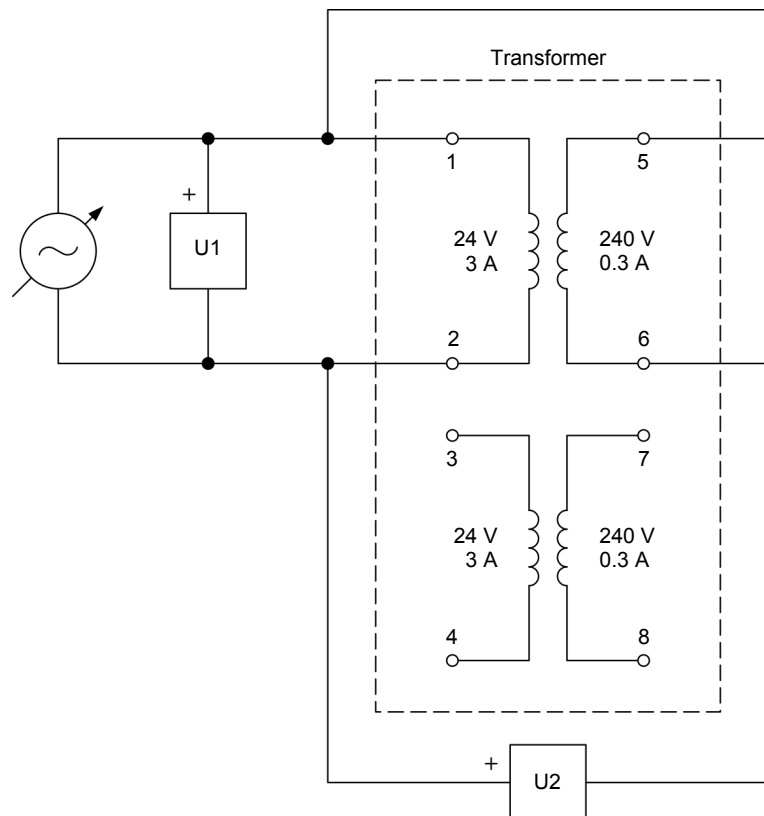

Figure 17. Circuit for determining transformer winding polarity using a voltmeter.
14. Connect the equipment as shown in Figure 17. In this circuit, one of the secondary windings (winding 5-6) of the power transformer is connected in series with the primary winding (winding 1-2).